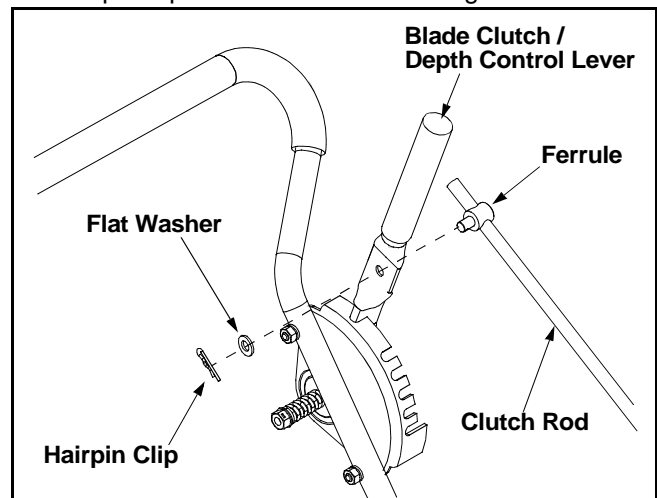

Figure 4
- Insert the ferrule located on the upper portion of the clutch rod into the hole on the blade clutch/depth control lever. Secure with the flat washer and hairpin clip removed earlier. See Figure 4.